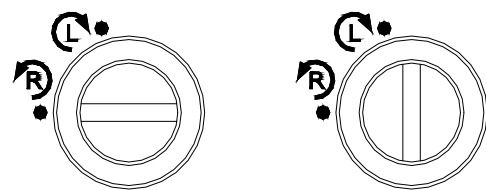

Fig. 4
The selection screw must be oriented with the groove vertically (L) or horizontally (R), otherwise the fuel unit will not function properly and damage could result (Fig.4).